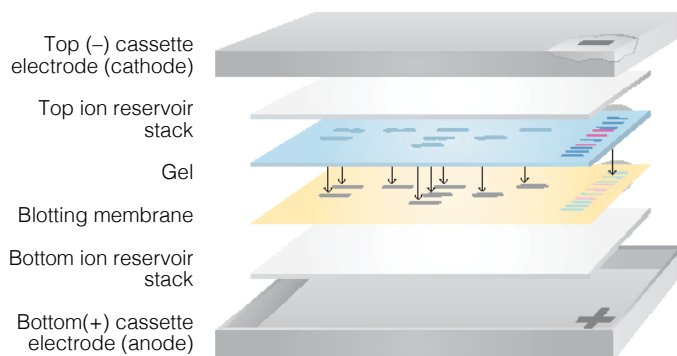

Fig. 19. Proper assembly of blotting sandwich using traditional consumables.
4. Assemble the transfer sandwich on the cassette base (anode) by placing one piece of wet extra-thick or three pieces of wet thick filter paper on the bottom, then the membrane, the gel, and finally, the remainder of the wet filter paper on top. Use the blot roller to remove air from between the assembled layers (Figure 19).